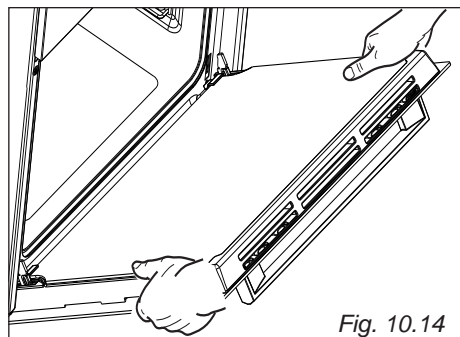

Fig. 10.14
- Hold the door as shown in fig. 10.14.